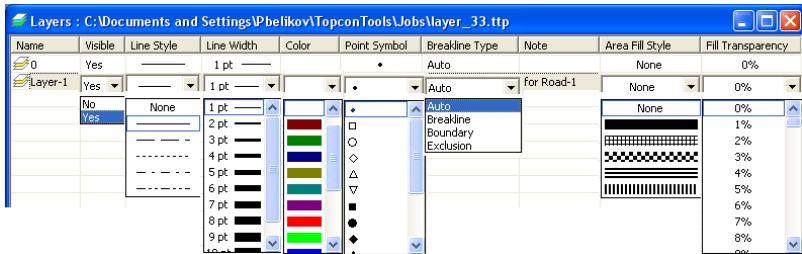

Figure 5-73. Editing Layer in the Layer View
Edit a Layer using the Layers View (Figure 5-73 on page 5-55):
- Highlight and click any (except *Name*) cell in the *Layers* view, select and edit the desired parameters (Figure 5-73).